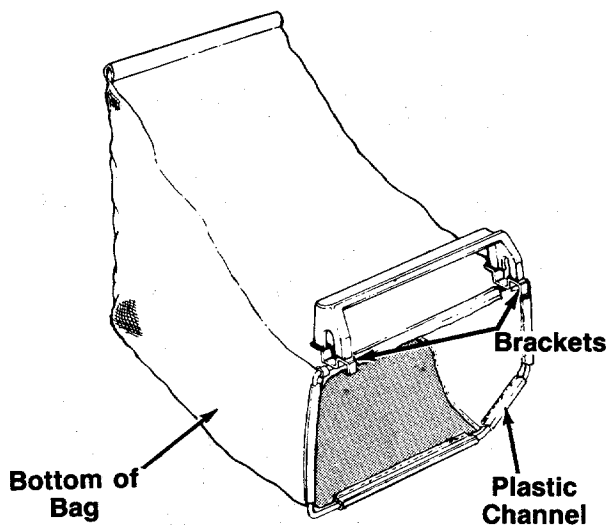

FIGURE 13.
1. Place bag over frame (black plastic side is the bottom of bag). Handle on frame goes to the top of bag. Brackets hook toward the front. See figure 13. ←
2. Secure bag to frame by slipping plastic channels on bag over frame. See figure 13.